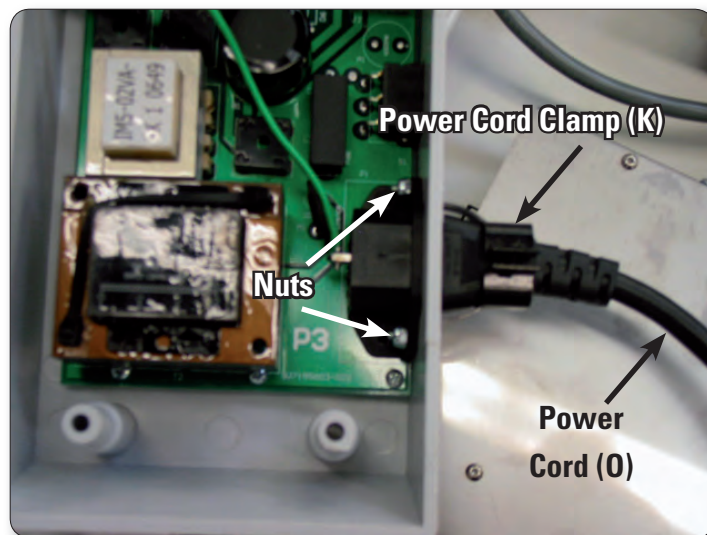

Figure 10
6. Slide the retaining clamp (Page 18, R) over one end of the new Y-split power cord (J).
8. Make sure the power cord is fully inserted, and then tighten the two P-Pod screws so they hold the clamp securely against the P-Pod. Insert the small screw included with the retaining clamp into the clamping portion of the retaining clamp and tighten so the clamp is now tight on the power cord as shown in Figure 10.